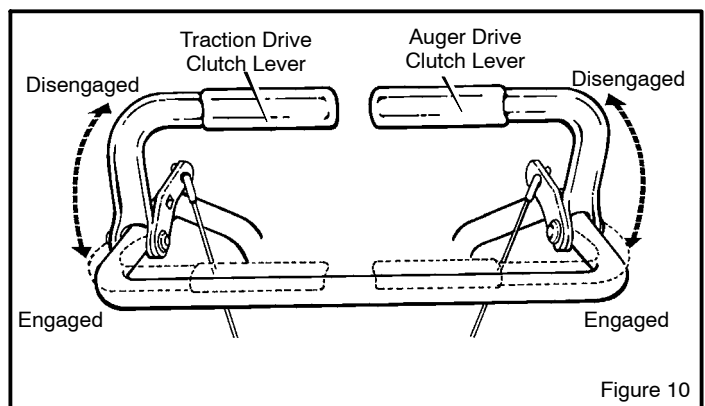

Figure 10
1. Start the engine as described in section "To Start Engine" (see Figure 10).
5. Engage auger drive clutch lever (right hand—Figure 10).
6. Engage traction drive clutch lever (left hand—Figure 10). As the snow blower starts to move, maintain a firm hold on the handles and guide the snow blower along the cutting path. Do not attempt to push the snow blower.
7. To stop forward motion, release traction drive clutch lever (left hand – Figure 10).
8. To stop auger, release auger drive clutch lever (right hand – Figure 10).